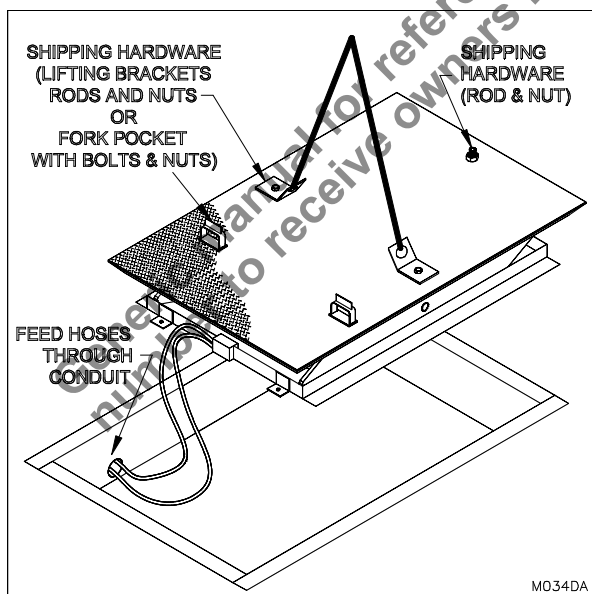

Figure 3: Moving the Dock Lift
7. Prior to hoisting the dock lift into the pit. Review and confirm all hoisting warnings and that hoisting equipment is of the appropriate capacity. Hoist the dock lift into the pit. At the same time, feed the hydraulic hose through the conduit from inside the pit toward the power unit. (See "Figure 3: Moving the Dock Lift" on page 5).
9. Square the dock lift platform in the pit, leaving approximately 1" space all around the pit edge. Remove all shipping bolts and hardware. (See “Figure 3: Moving the Dock Lift” on page 5).